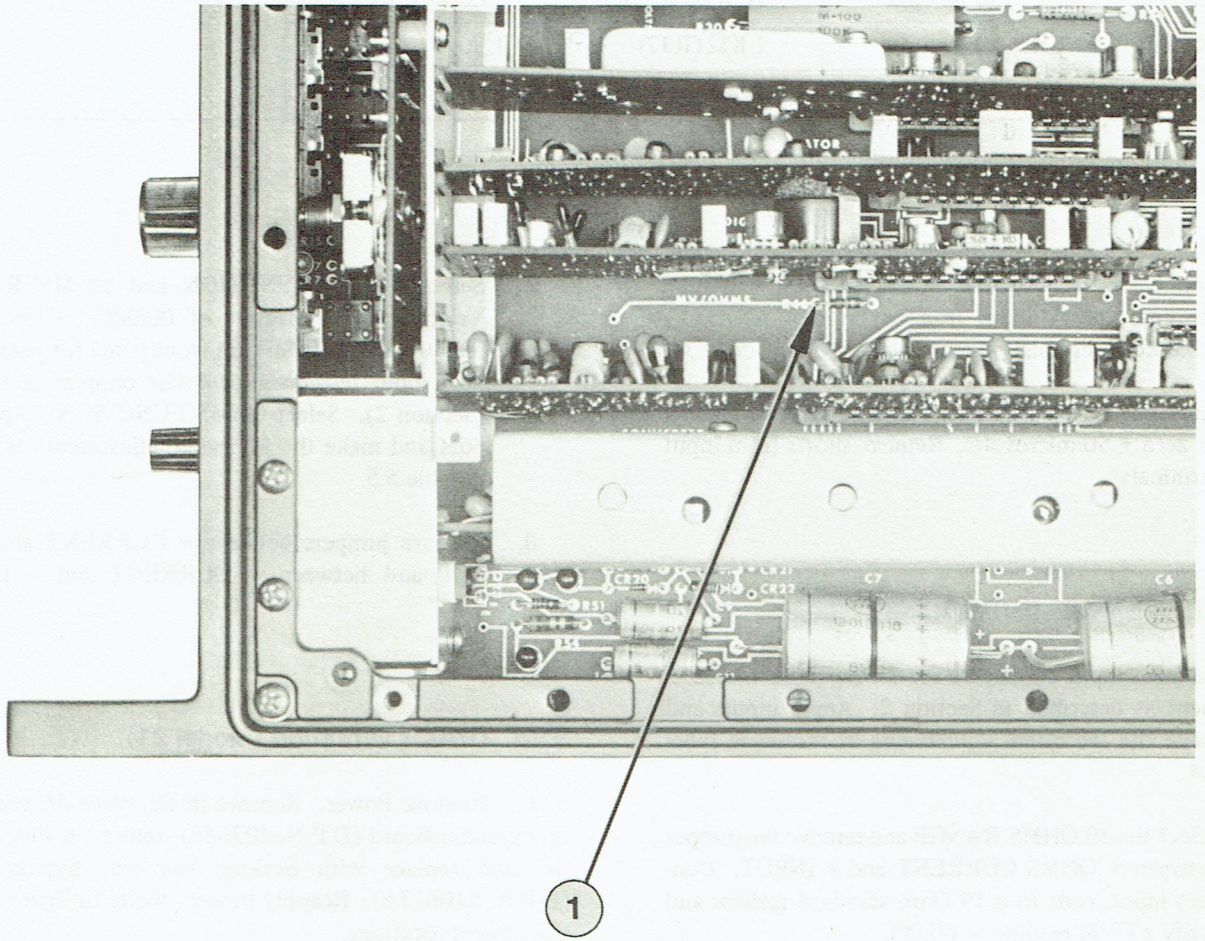

Figure 5.3 - Test Point - mV Offset
- Remove Shield. Connect high input of microvoltmeter to front end of resistor R46 on main interconnection PCB (point ① in figure 5.3) and the low input to the - INPUT terminal on the instrument *front panel*. Adjust the MV OFFSET control on the *front panel* for a microvoltmeter reading of zero ± 50 mV. Remove microvoltmeter leads, replace shield and allow 5 minutes warmup time.